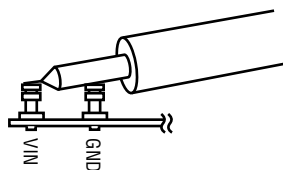

Figure 2. Measuring Input or Output Ripple
**NOTE:** When measuring the input or output voltage ripple, care must be taken to avoid a long ground lead on the oscilloscope probe. Measure the input or output voltage ripple by touching the probe tip directly across the  $V_{IN}$  or  $V_{OUT}$  and GND terminals. See Figure 2 for proper scope probe technique.